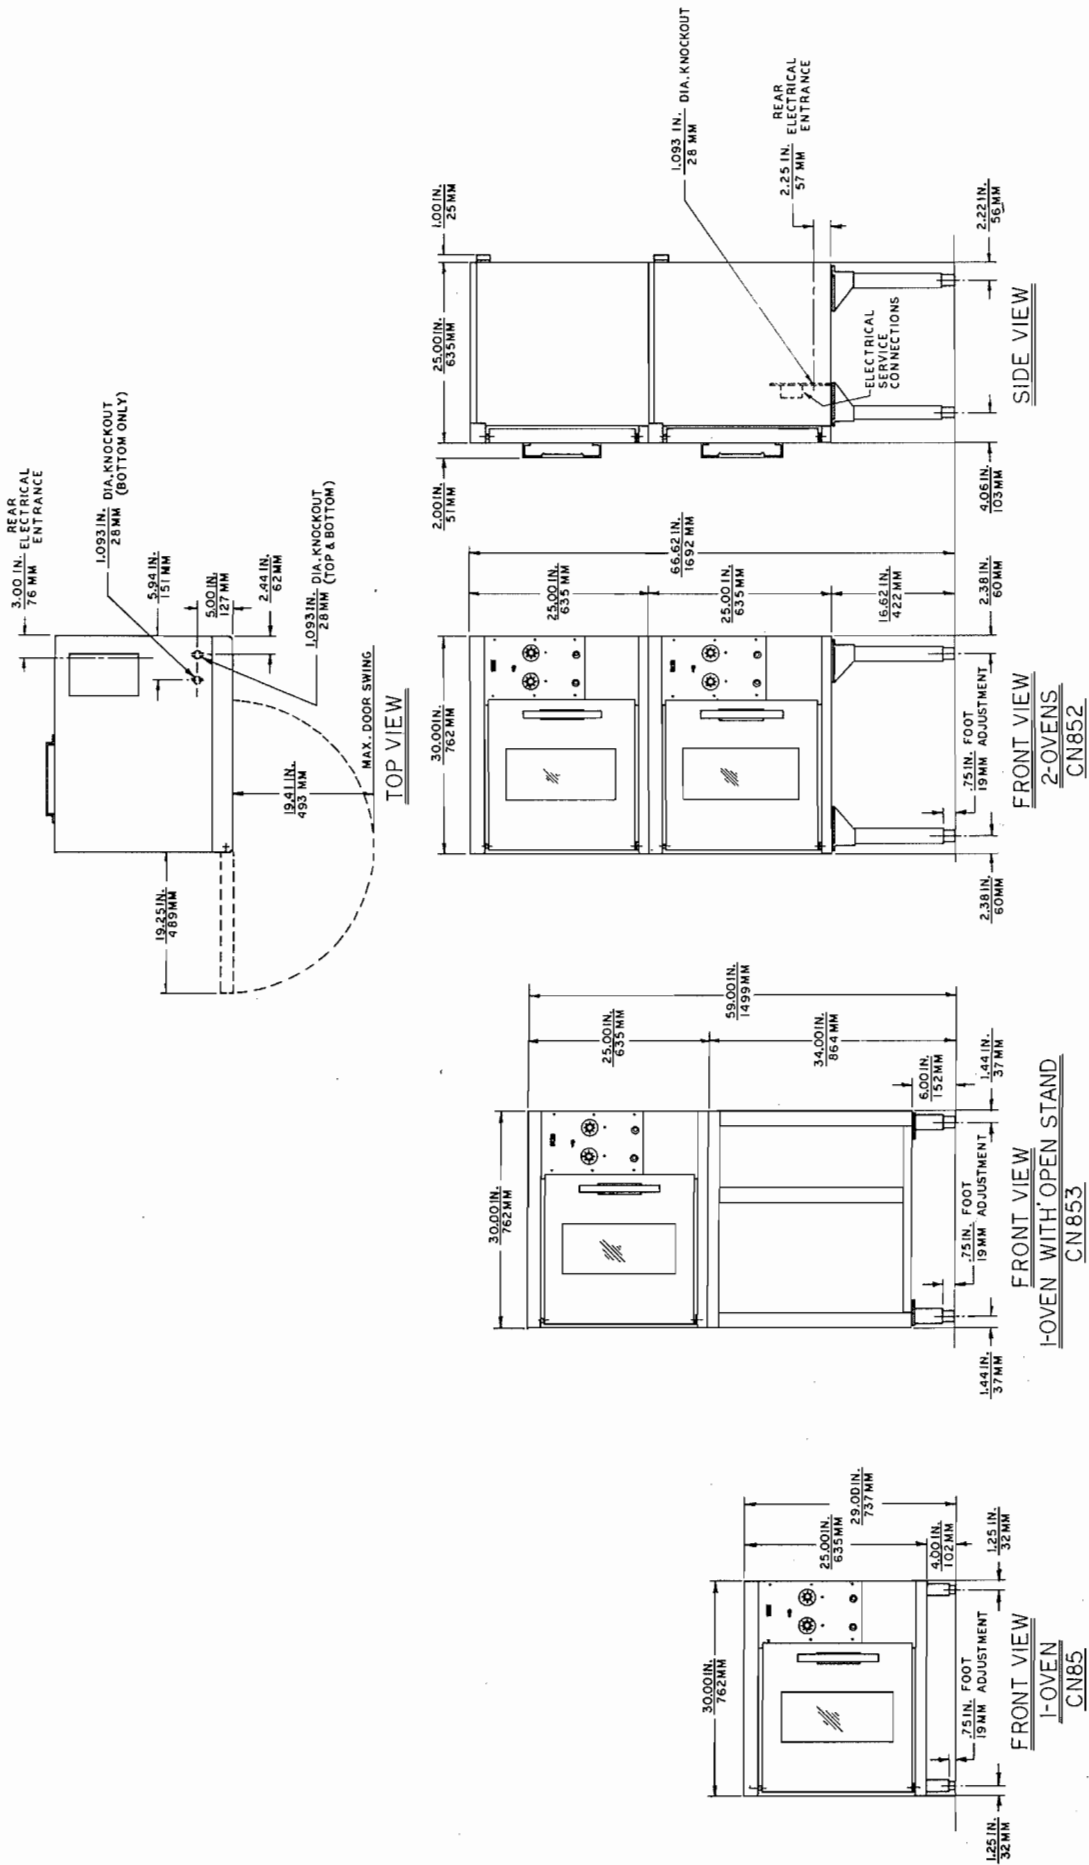

Fig. 1 — Floor Plan for all models - 54D118729
Consult floor plan (Figure 1) for area positioning, installation restrictions and other information. The oven back is provided with a mainline conduit entrance. See Table 1 for general and dimensional data, Table 2 for rack data and Table 3 for electrical data. Table 4 lists accessories.
4. Conduit knockouts are provided in oven back or bottom (See Fig. 1 for location) for attaching conduit.